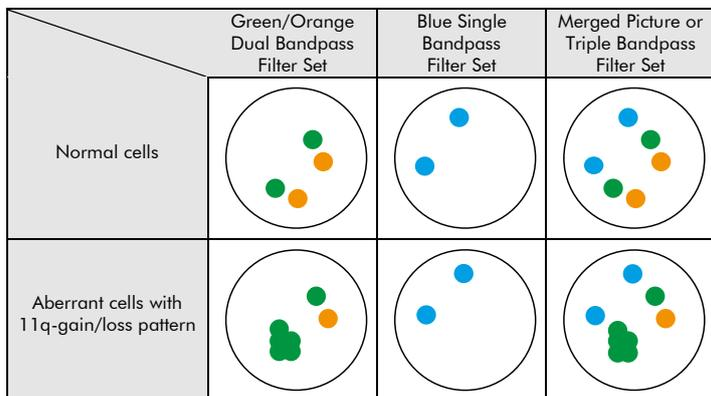

Fig. 2: Expected results in normal and aberrant nuclei
**Normal situation:** In interphases of normal cells or cells without an 11q alteration, two green, two orange, and two blue signals appear (see Fig. 2).
**Aberrant situation:** In interphases of cells affected by an 11q-gain/loss alteration, one green and one orange signal is expected for the unaffected chromosome, and one amplified green signal and loss of an orange signal is expected for the chromosome affected by an 11q-gain/loss alteration (see Fig. 2).